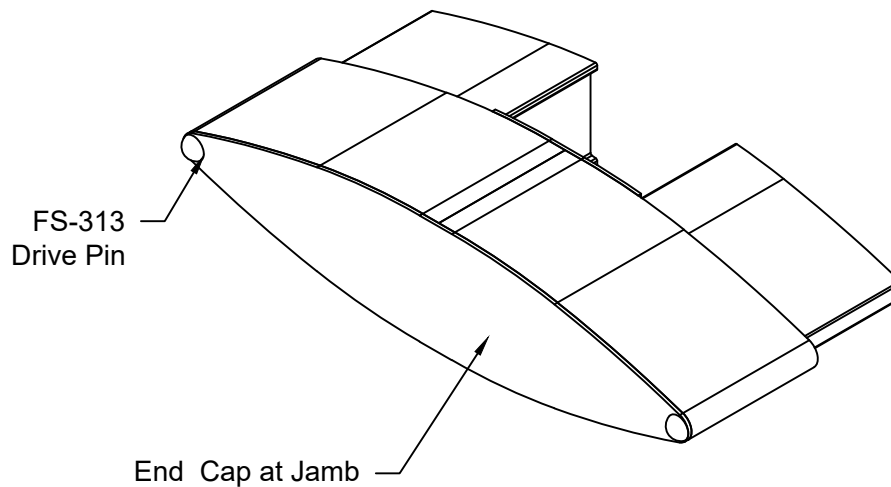

FIGURE 44
- 4) Jamb splice assemblies will get an end cap attached to jamb side using (2) FS-313 drive pins. See Parts List for end cap for each standard blade assembly. SEE FIGURE 44